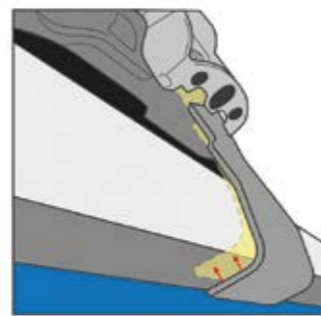

Fig2 - Ensure BaseClips make contact with door frame.
15. Use Swing Bolt and Drive Bolt to swing clips enough to make contact with roof (Fig2)